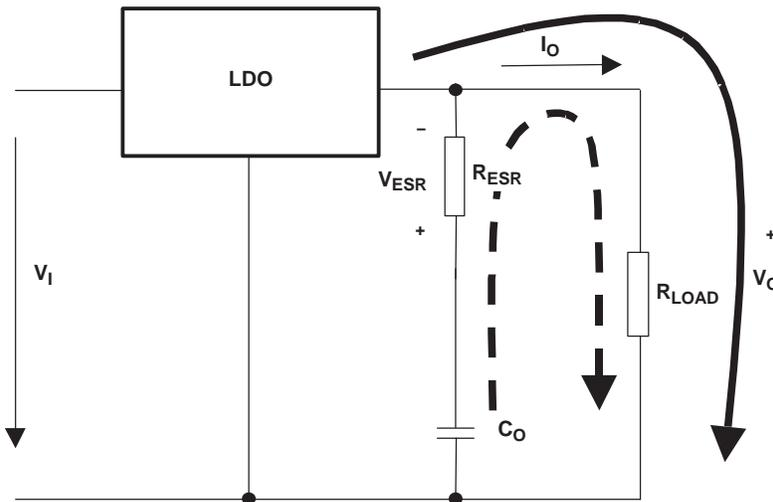
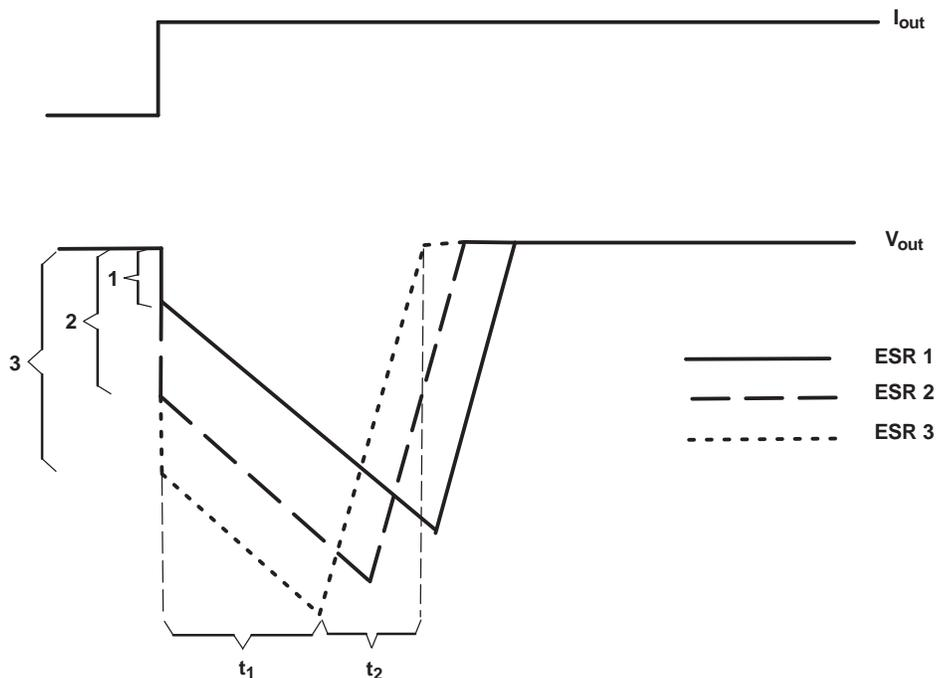

Figure 22. LDO Output Stage With Parasitic Resistances ESR
Figure 23. Correlation of Different ESRs and Their Influence to the Regulation of V_{out} at a Load Step From Low-to-High Output Current
Figure 22 shows the output capacitor and its parasitic impedances in a typical LDO output stage.
- The LDO is not able to supply the sudden current need due to its response time (t_1 in Figure 23). Therefore, capacitor C_{out} provides the current for the new load condition (dashed arrow). C_{out} now acts like a battery with an internal resistance, ESR. Depending on the current demand at the output, a voltage drop will occur at R_{ESR} . This voltage is shown as V_{ESR} in Figure 22.
- When C_{out} is conducting current to the load, initial voltage at the load is $V_{out} = V_{C_{out}} - V_{ESR}$. Due to the discharge of C_{out} , the output voltage V_{out} drops continuously until the response time t_1 of the LDO is reached and the LDO resumes supplying the load. From this point, the output voltage starts rising again until it reaches the regulated voltage. This period is shown as t_2 in Figure 23.